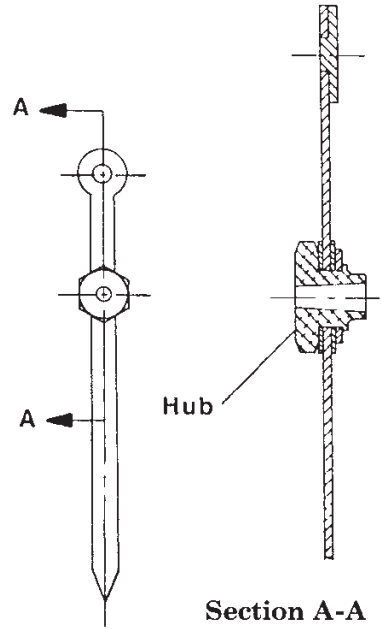

Figure 2-2. Zero Adjustment (Pointer)
2. If zero indication is incorrect, remove bezel/lens and reset pointer to zero. Note: For an exact zero setting, hold the hexagon hub with a wrench and carefully slip the pointer on its hub until it points to zero graduation (See Figure 2-2). Replace bezel/lens.
7. Release all pressure to the pressure housings and reposition the pointer at ZERO (See Figure 2-2).